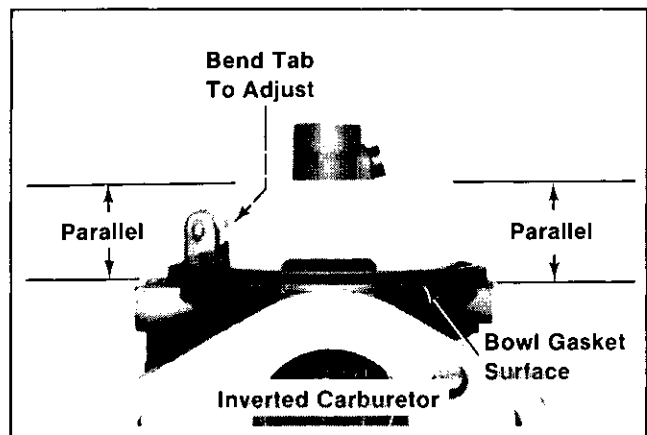

Figure 6-30. Setting Float Level.
- Set Float Level:** Invert the carburetor so the float tab rests on the fuel inlet needle. The exposed surface of float should be **parallel** with the bowl gasket surface of the carburetor body (exposed, free end of float .690" / .720" from bowl gasket surface). Refer to Figure 6-30.